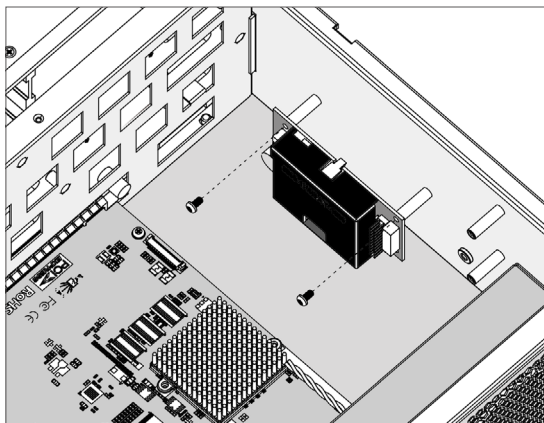

Figure C-6, Secure the Battery Module
2. After removing the cover, then secure the battery pack module (ARC-6120-BAT121-7, reference NO.1 in Figure C-1) on the right side within the enclosure (for ARC-7316), as shown in Figure C-6.